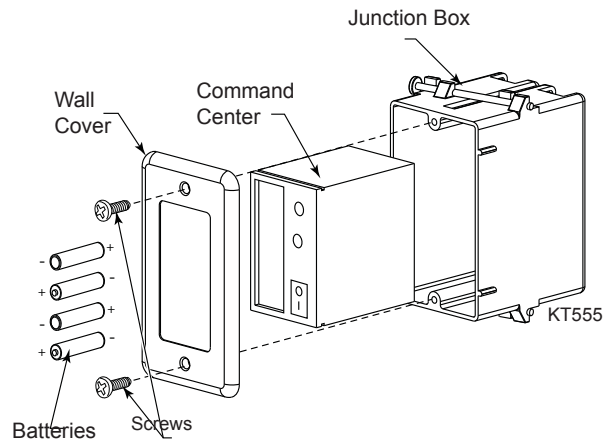

Figure 39 - Snap Wall Cover in Place
1. Mount the junction box provided at the desired location on the wall. Do not extend beyond the 15 ft. wire cable provided. If a longer distance is required, the 15 ft. may be extended to 30 ft. maximum by using two (2) cables plugged together.
3. Snap wall cover provided onto Command Center and screw into junction box. *Figure 39*